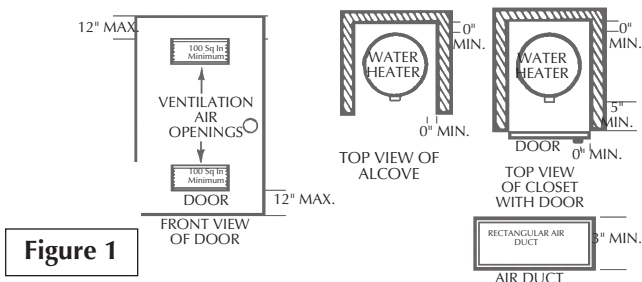
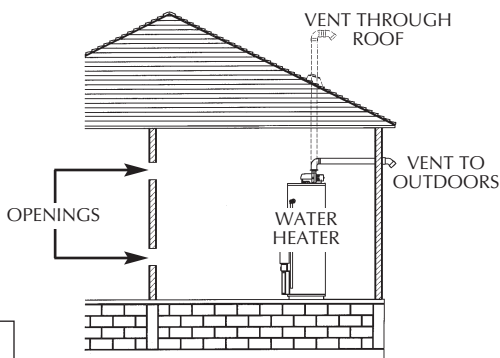

Figure 1
Figure 6
Minimum clearances between the water heater and combustible and non-combustible construction are: 0 inches from sides, 0 inches from back, 5 inches from front of jacket to closet door and 14 inches from top of jacket to combustible and non-combustible material. Minimum vent clearance: 0 inches. Provide 24 inches front clearance for servicing and adequate clearance between the jacket top & ceiling for servicing the flue area. (See Figure 1).
(See Page 8 Figure 1, and Figure 6 below)
1. When directly communicating with the outdoors, each opening shall have a minimum free area of 1 square inch per 4,000 BTU per hour of total input rating of all equipment in the enclosure. (See Figure 6.)